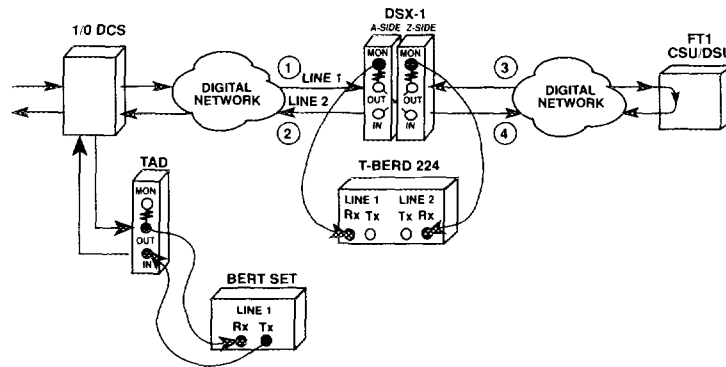

Figure 10
Figure 10 illustrates a T-BERD 224 monitoring a BERT test on a FT1 circuit.
**Sectionalizing - The circled number references the location of the problem in Figure 10.**